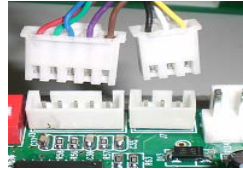

Fig.11
2. The connection of the motor encoder cables is shown in fig.11: Motor encoder cable has a plug or two, the left side is the motor HALL line and the right side is the encoder cable plug.